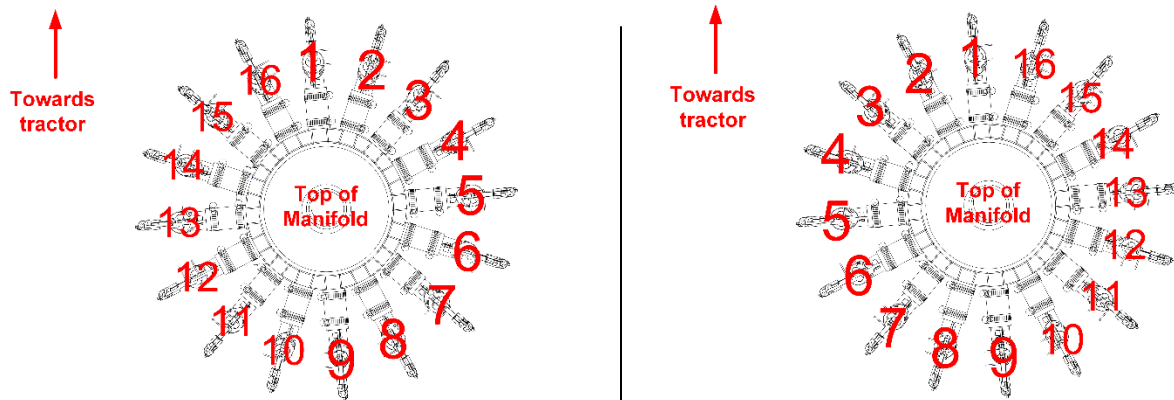

Figure 14: Order to connect flow sensors to ECU
2. Remove and discard the cap at the end of the auditory hose of the run that is closest to the tractor when facing the back of the tractor. This run is labelled “1” in Figure 14).
6. Continue removing the caps from the ends of the auditory hoses, running them through the top of the ECU bracket and attaching them to the proper ECU port, working clockwise around the manifold as shown in Figure 14.